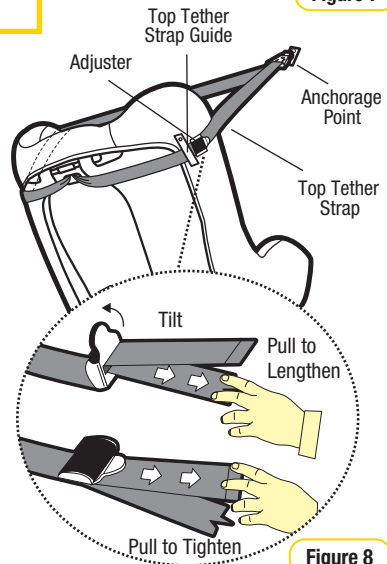

Figure 8
**Step 7:** Pull to tighten to remove all the slack, from the upper anchorage strap. Do not overtighten as this could cause the restraint to lift off the vehicle seat (refer to Figure 8).